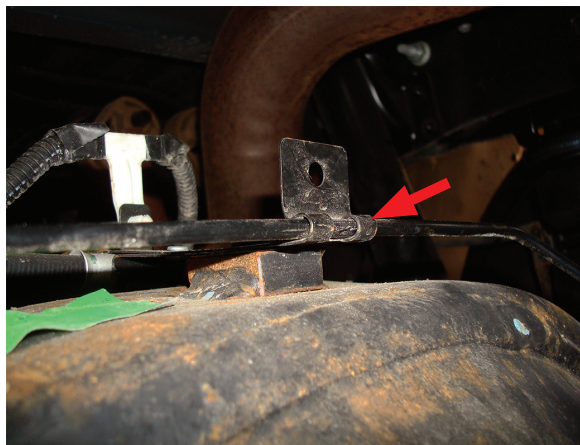

fig. 6
- Unclip the brake line from the bracket on top of the differential (Fig. 6).
- Once the upper and lower brackets are tight, re-connect the brake line bracket to the spring perch using the stock bolt removed. Insert the brake line junction block back into the bracket on the axle and re-insert the clip that holds it in place. Clip the brake line back onto the bracket on top of the differential that was previously removed (Figs. 6 & 22).